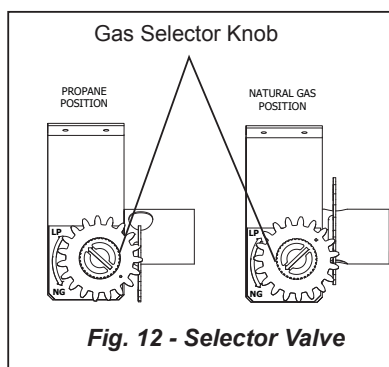

Fig. 12 - Selector Valve
Step 2 - Adjust the gas selector valve. Push in on the selector valve Knob and rotate the knob counter-clockwise until it stops. Release the knob (See Fig. 12).